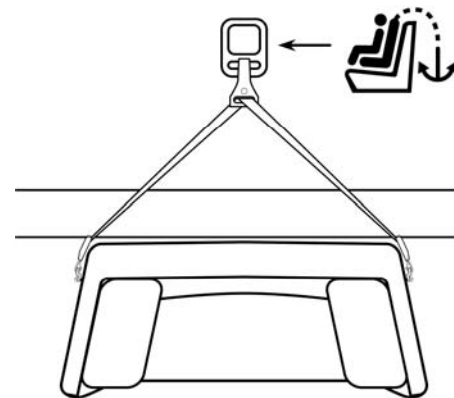

Figure 7: Single hook attachment for individuals under 80 lbs.
- **For individuals less than 80 lbs. (<36 kg):** attach one (1) tether hook to the tether anchor immediately behind the restraint. **See Figure 7.**